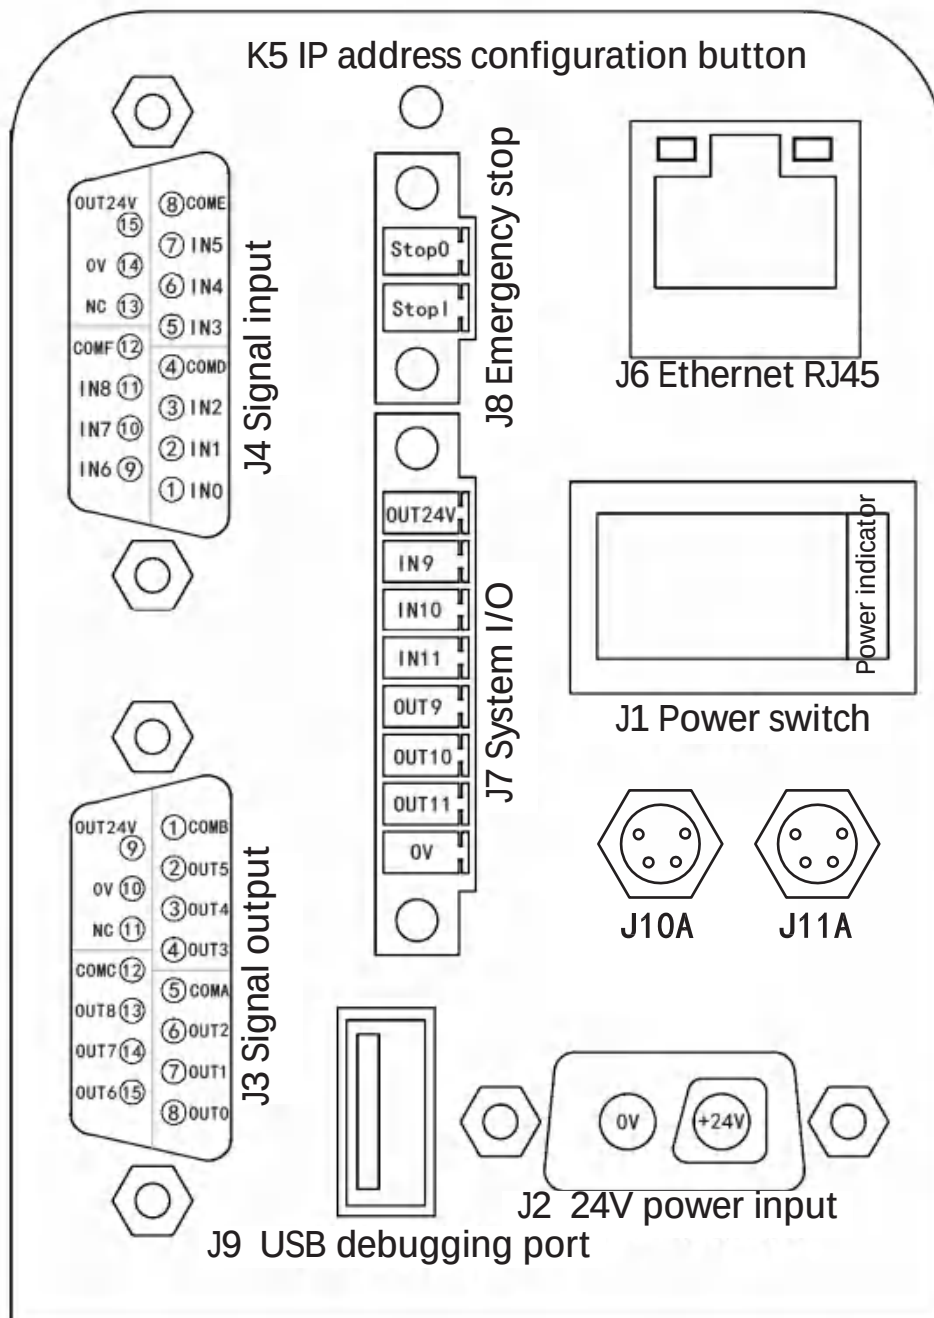

Figure 1
1. General schematic diagram of the base interface at A (as shown in Figure 1)